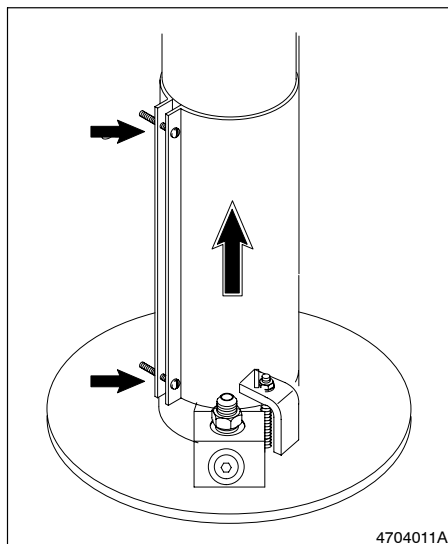

Fig. 7-14 Raising the Column Collar
5. See Figure 7-14. Loosen the two round-head screws and hex nuts that secure the column collar in place. Slide the collar up to give access to the drive shaft-to-pump connection. Tighten the round-head screws and hex nuts to secure the collar in place.